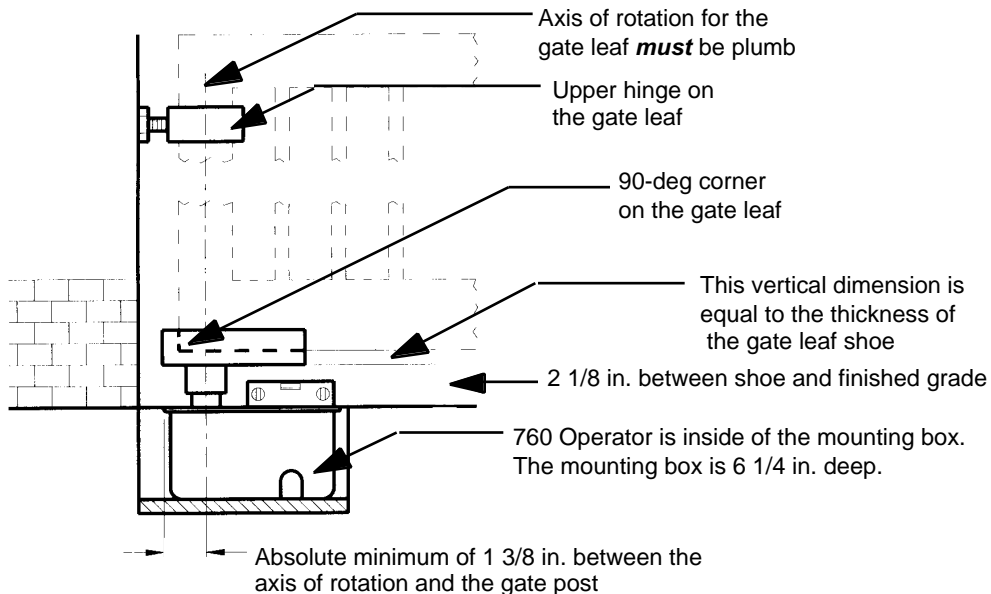

Figure 4. Constraints on the geometry of the gate leaf (Single hinge installation shown)
2. The distance between the gate post and the center of the gate hinge must be **at least** 1 3/8 in. (3.5 cm). (see Figure 4)
You need to excavate a cavity for the load bearing box of the 760 Operator according to the dimensions shown in Figures 4 and 7. (Your soil conditions will also determine the size of the cavity.) Accurately positioning the splined shaft of the pinion (inside the mounting box) beneath the gate hinge is critical. Proper alignment will ensure a full swing without binding.
If the vertical distance between the finished grade under the gate and the bottom of the gate leaf is more than 2 3/8 in. (see Figure 4), you need to do one of the following: